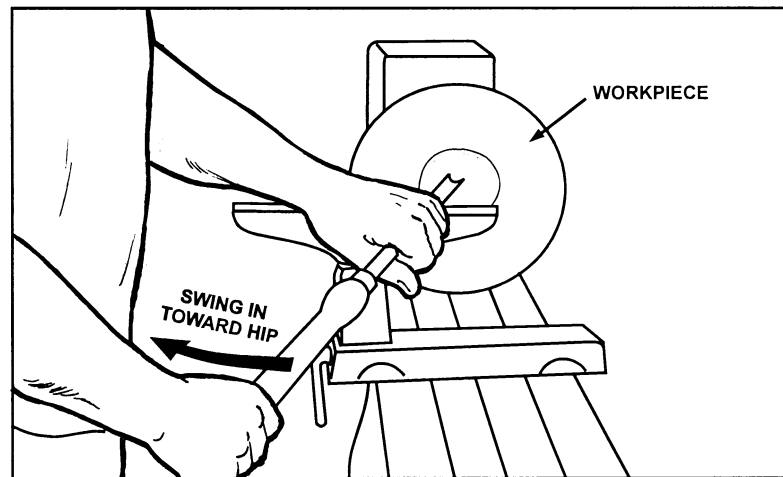

FIGURE 11
5. Place 1/2" bowl gouge on toolrest at center of the workpiece with the flute facing top of bowl. The tool handle should be level and pointed toward four o'clock, as shown in Figure 11.
6. Use left hand to control cutting edge of gouge, while right hand swings tool handle around toward your body (see Figure 11). The flute should start out facing top of workpiece, and rotate upward as it moves deeper into the bowl to maintain a clean even curve. As tool goes deeper into bowl, progressively work out toward rim. It may be necessary to turn the toolrest into the piece as you get deeper into the bowl. (NOTE: Try to make one, very light continuous movement from the rim to the bottom of the bowl to ensure a clean, sweeping curve through the piece. Should there be a few small ridges left, a light cut with a large domed scraper can even out the surface.)